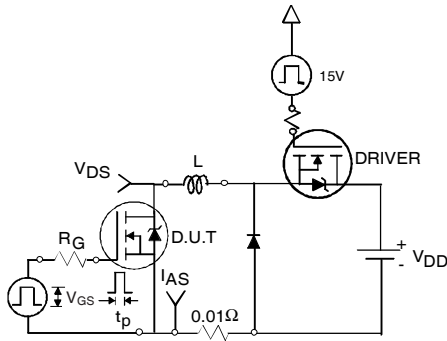

Fig 12a. Unclamped Inductive Test Circuit
| I_{AR} | Avalanche Current ④ | See Fig.12a, 12b, 15, 16 | A |
- ③ Pulse width $\leq 1.0\text{ms}$; duty cycle $\leq 2\%$.
- ④ $C_{oss\ eff.}$ is a fixed capacitance that gives the same charging time as C_{oss} while V_{DS} is rising from 0 to 80% V_{DSS} .
- ⑤ Limited by T_{Jmax} , see Fig.12a, 12b, 15, 16 for typical repetitive avalanche performance.
- ⑥ This value determined from sample failure population, starting $T_J = 25^\circ\text{C}$, $L = 0.10\text{mH}$, $R_G = 25\Omega$, $I_{AS} = 75A$, $V_{GS} = 10V$.
- ⑦ This is applied to D²Pak, when mounted on 1" square PCB (FR-4 or G-10 Material). For recommended footprint and soldering techniques refer to application note #AN-994.
3. Equation below based on circuit and waveforms shown in Figures 12a, 12b.